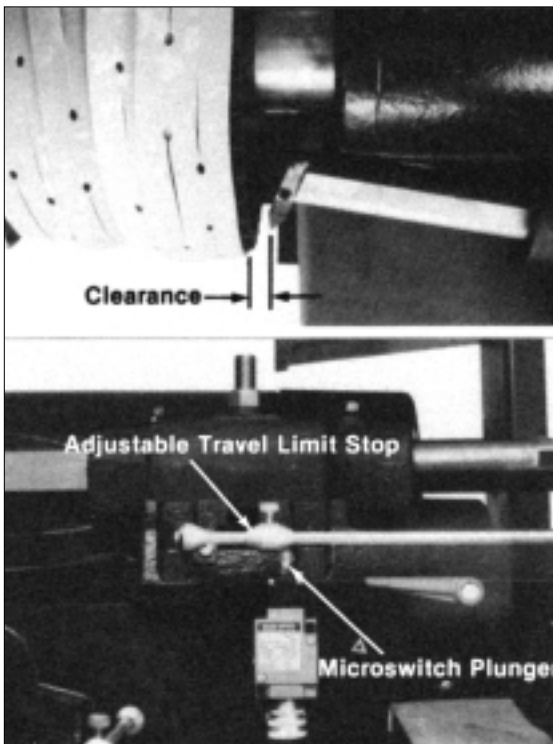

Figure 3 - Setting Limit Switch for Drum Turning
7. Set the cross slide limit switch by either estimating the travel necessary to cut the full depth of the drum or, if cutting several drums having the same depth, crank the cross slide back so the tool bit is 1/4" to 1/2" outside the drum. be sure all feed gearbox levers are in the DISENGAGE position. TURN THE LATHE ON. Slide the left adjustable travel limit stop against the microswitch plunger, Fig. 3. The feed motor will shut off as the ramp of the adjustable stop depresses the microswitch plunger. Tighten the lockscrew to hold the stop at this point. Set the right hand feed direction knob to the DRUM TURN OUT position.